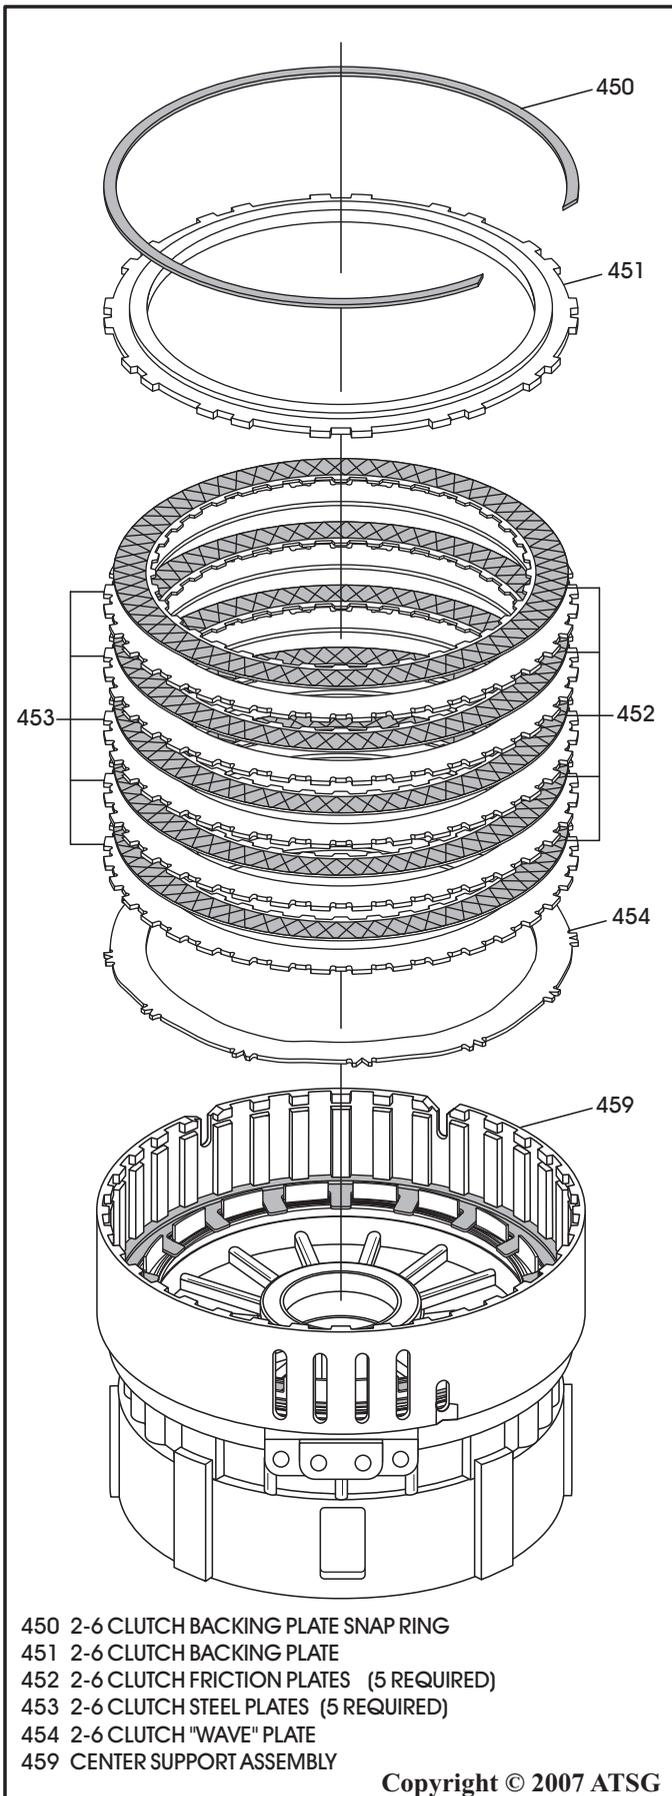

Figure 109
9. Install the 2-6 clutch "wave" plate into center support, as shown in Figure 109.
10. Install the 2-6 clutch plates beginning with a steel plate and alternating with a friction plate until you have installed five of each, as shown in Figure 109.
11. Install the 2-6 clutch backing plate, as shown in Figure 109.
12. Install the 2-6 clutch backing plate snap ring, as shown in Figure 109.